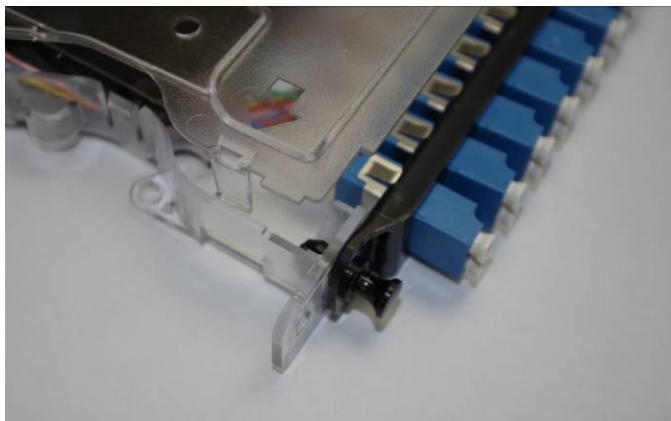

Figure 1
- Step 1:** Remove the cover by pressing the tabs on the sides and rear of the cassette, and lift it from the base (**Figure 1**).